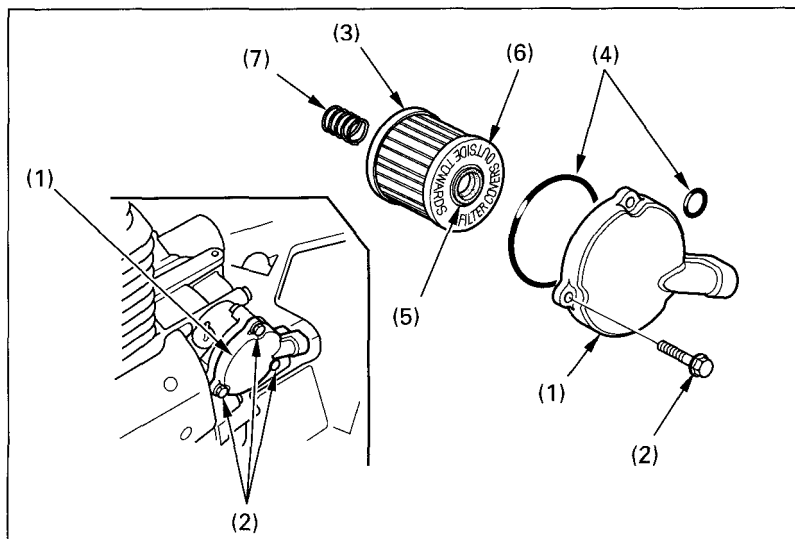

Fig. 4-13 (1) Oil filter cover
3. Remove the oil filter cover (1) (Fig. 4-13) by removing the bolts (2). Let the remaining oil drain out. Discard the oil filter (3).
4. Check that the oil filter cover O-rings (4) are in good condition and then install a new oil filter. Use only the Honda genuine oil filter or a filter of equivalent quality specified for your model. Using the wrong Honda filter or a non-Honda filter which is not of equivalent quality may cause engine damage.
5. Install the filter with the rubber seal (5) facing out, away from the engine. You will see the "OUTSIDE (TOWARDS FILTER COVER)" mark (6) on the filter body, near the seal.
6. Reinstall the oil filter cover (1), making sure the bolts (2) are tightened securely.